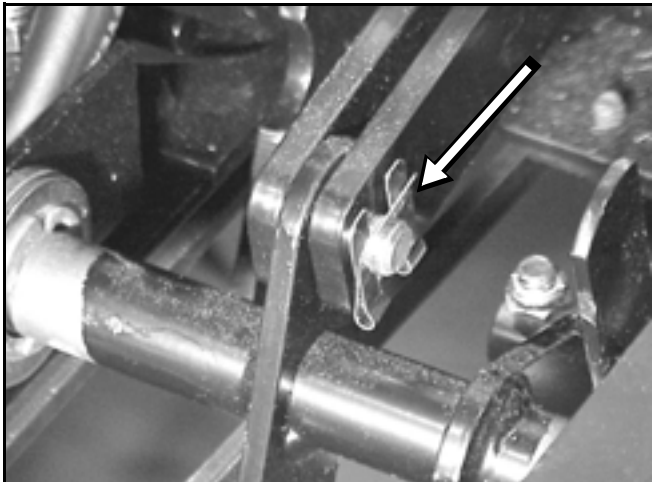

Figure 58
1. Remove the center access plate. Remove the pin clip and clevis pin retaining the two lift strap links to the lift lever (Figure 58).